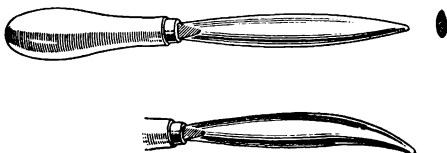

Fig. 6—Two types of burnisher.
1 burnisher (steel with curved end and handle) (Fig. 6),
*Burnisher* : The burnisher is not a cutting tool. It has a polished face or rounded edge which can smooth the surface of the metal and is very useful for eliminating the burr, or rough edge, thrown up by gravers, or for removing scratch marks, guide lines, etc. (Fig. 6).